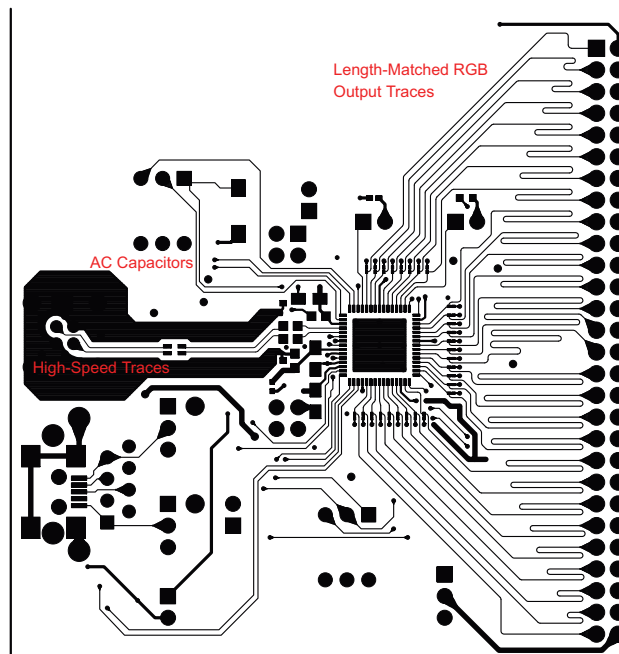

Figure 28. DS90UB926Q-Q1 Serializer Example Layout
**Figure 28** shows the PCB layout example derived from the layout design of the DS90UB926QSEVB Evaluation Board. The graphic and layout description are used to determine both proper routing and proper solder techniques when designing the Serializer board.